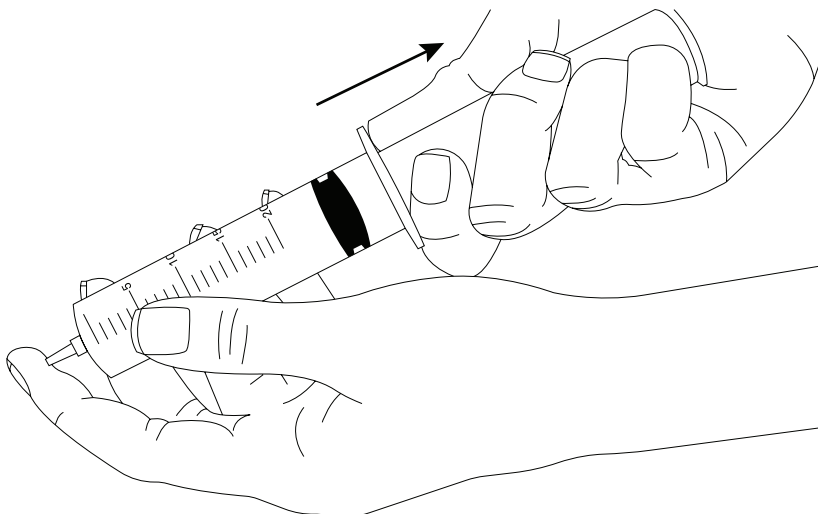

Figure 3 Degassing water in reservoir syringe
2. Cover the tip of the reservoir syringe with finger to seal it (Figure 3)
4. Pull the plunger out to create a vacuum, continuing to cover the tip of the syringe (Figure 3). The vacuum in the syringe degasses the water. Air bubbles appearing indicate that the vacuum is achieved.